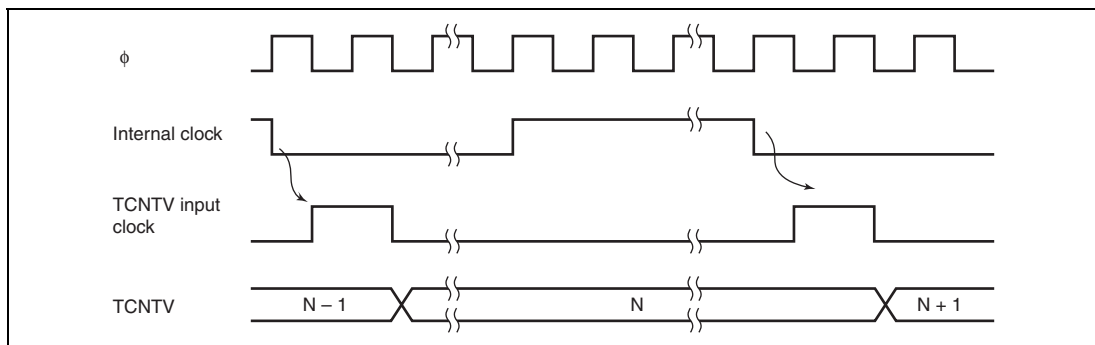
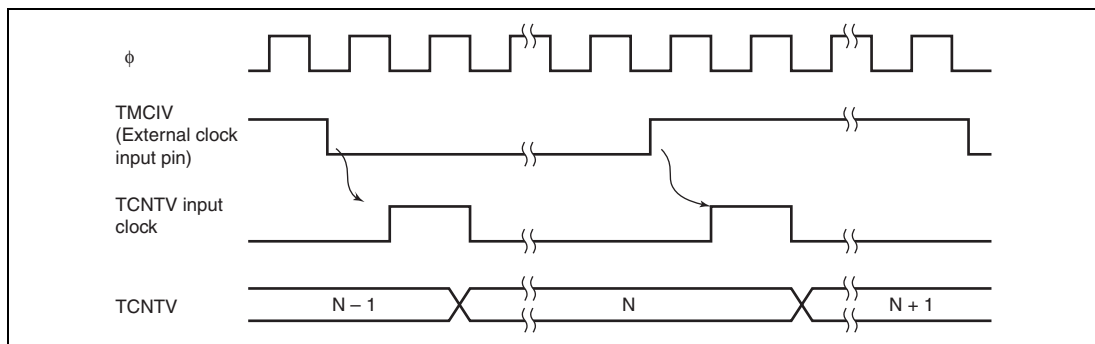

Figure 10.2 Increment Timing with Internal Clock
Figure 10.3 Increment Timing with External Clock
1. According to table 10.2, six internal/external clock signals output by prescaler S can be selected as the timer V operating clock signals. When the operating clock signal is selected, TCNTV starts counting-up. Figure 10.2 shows the count timing with an internal clock signal selected, and figure 10.3 shows the count timing with both edges of an external clock signal selected.
4. Depending on the timing, TCNTV may be incremented by a switch between different internal clock sources. When TCNTV is internally clocked, an increment pulse is generated from the falling edge of an internal clock signal, that is divided system clock (ϕ). Therefore, as shown in figure 10.3 the switch is from a high clock signal to a low clock signal, the switchover is seen as a falling edge, causing TCNTV to increment. TCNTV can also be incremented by a switch between internal and external clocks.